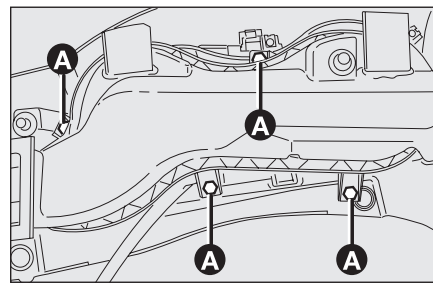

fig. 23
- ☐ loosen the four screws **A-fig. 23** and disconnect the two connectors;